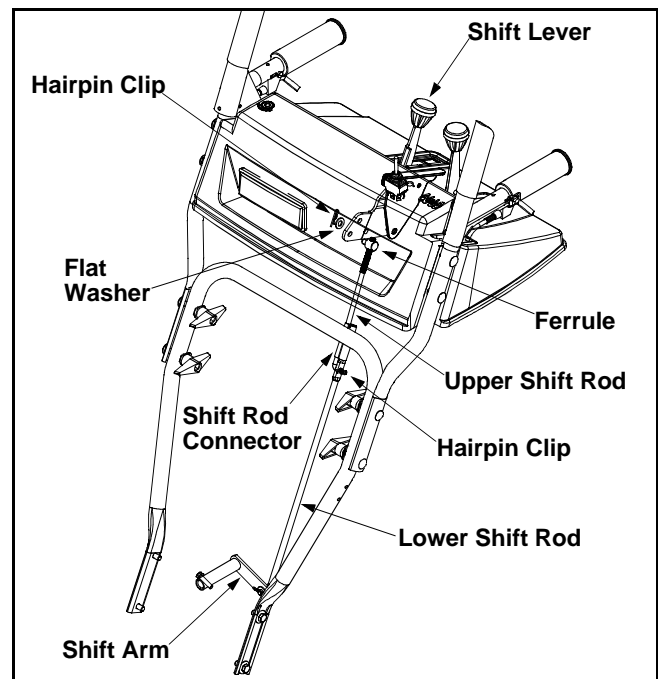

Figure 10
- Remove the hairpin clip and slide the shift rod connector up, to separate the upper shift rod from the lower shift rod. See Figure 10.
- Place the shift lever into the sixth (6) position.